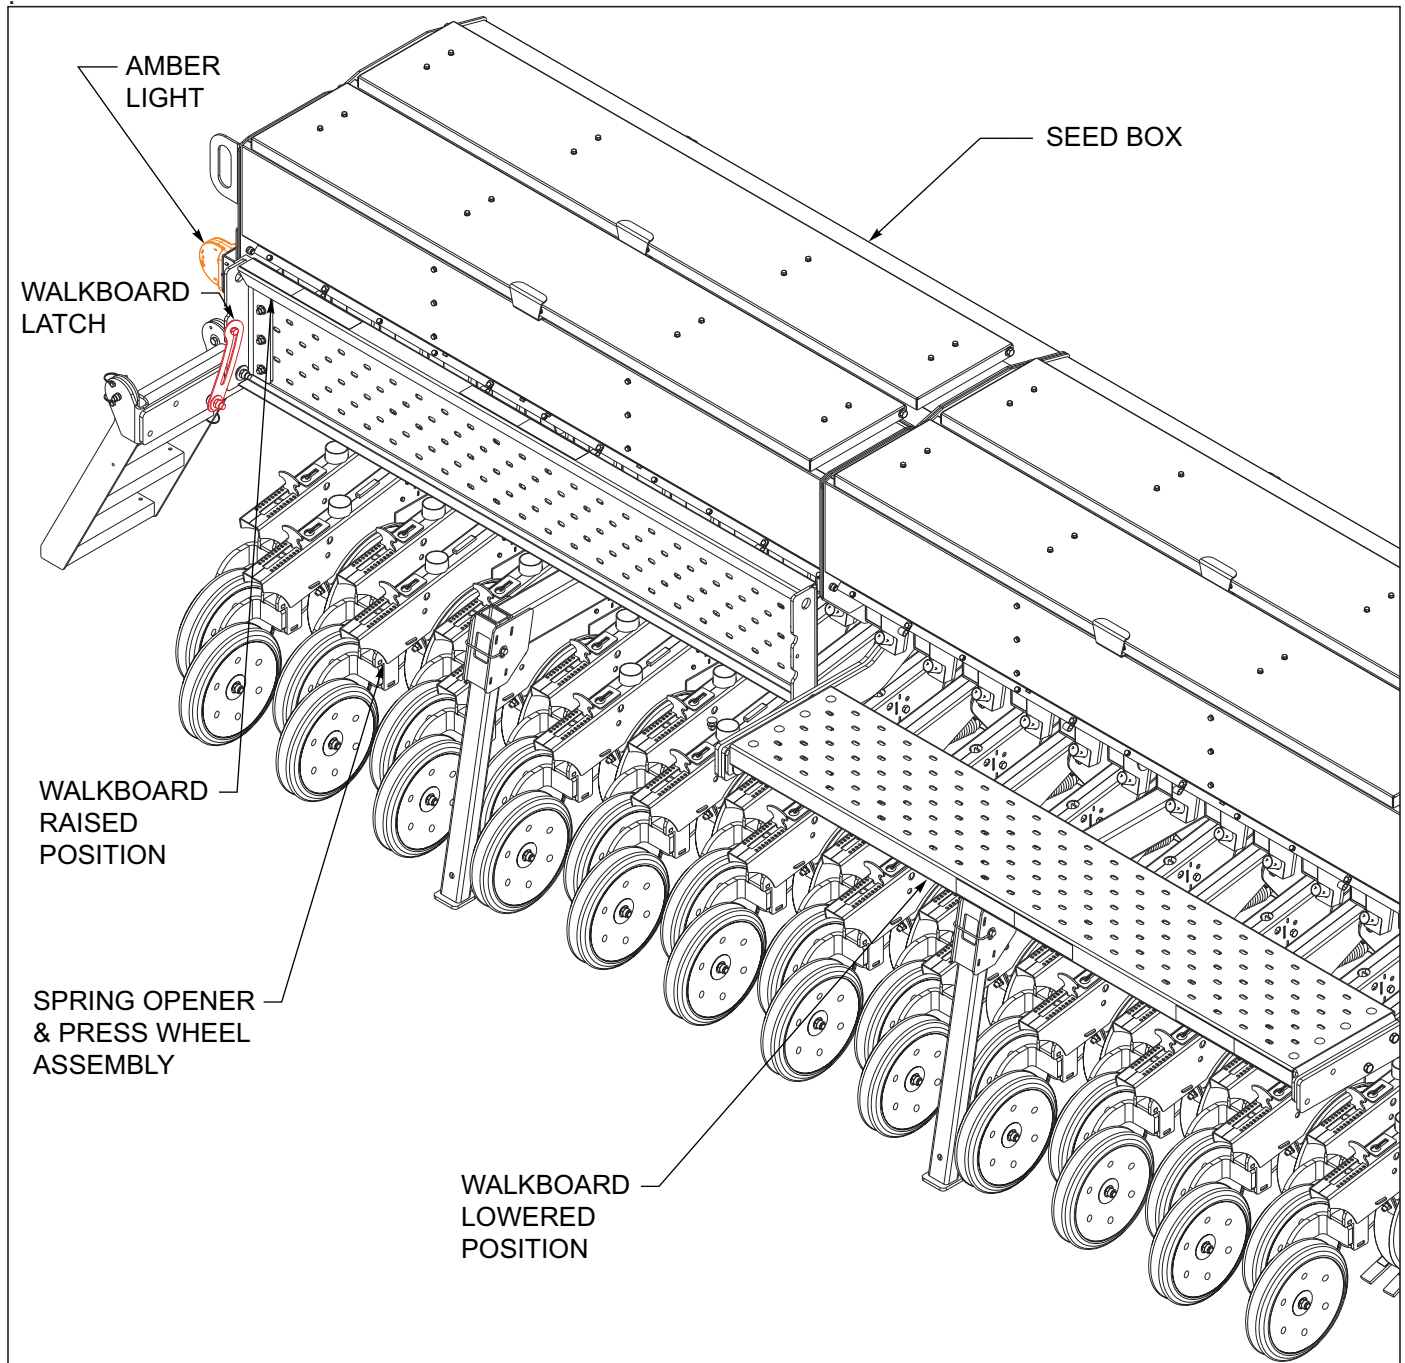

Figure 4-42: Walkboard Adjustment
1. The walkboard on the Grain Drill provides a stable platform to work from while filling the seed box See Figure 4-42.